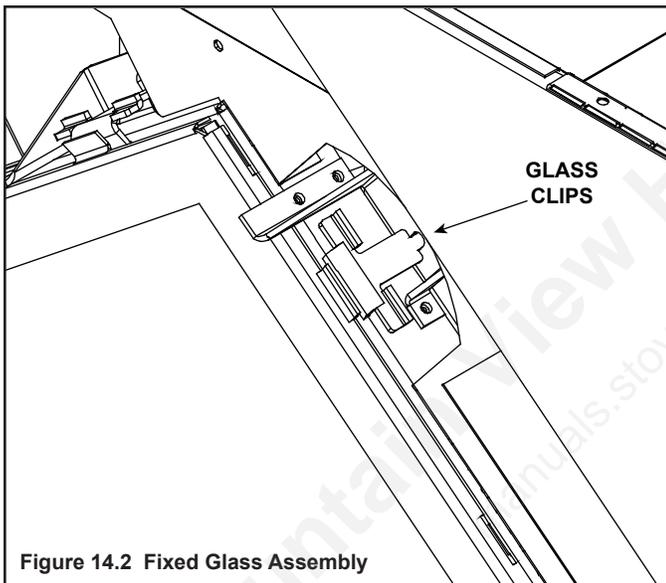

Figure 14.2 Fixed Glass Assembly
- Unscrew the two top wing bolts and unlatch the two bottom spring clips (see Figure 14.2).